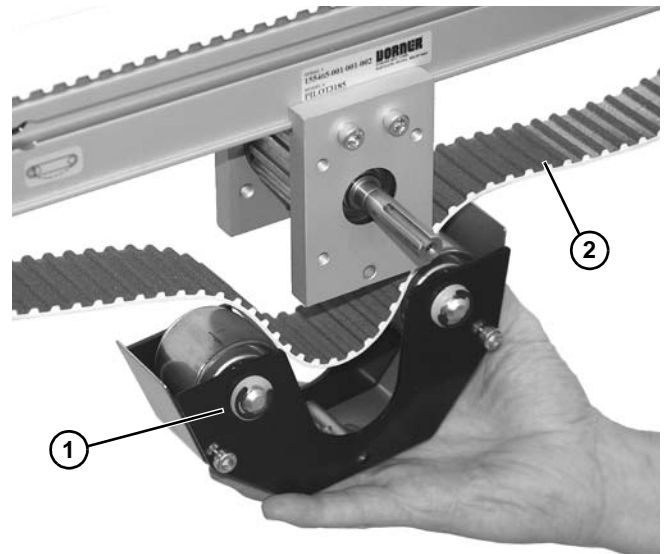

Figure 90
9. Raise mid drive assembly (Figure 90, item 1) onto belt (Figure 90, item 2).